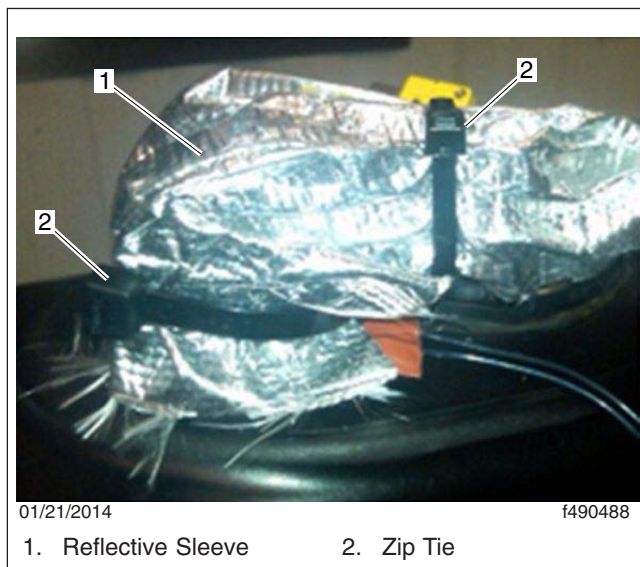

**Fig. 2, Installing the Heater**
7. Install the lower piece of the insulation with the short edge of the angle-cut side facing the DEF line. See Fig. 2.